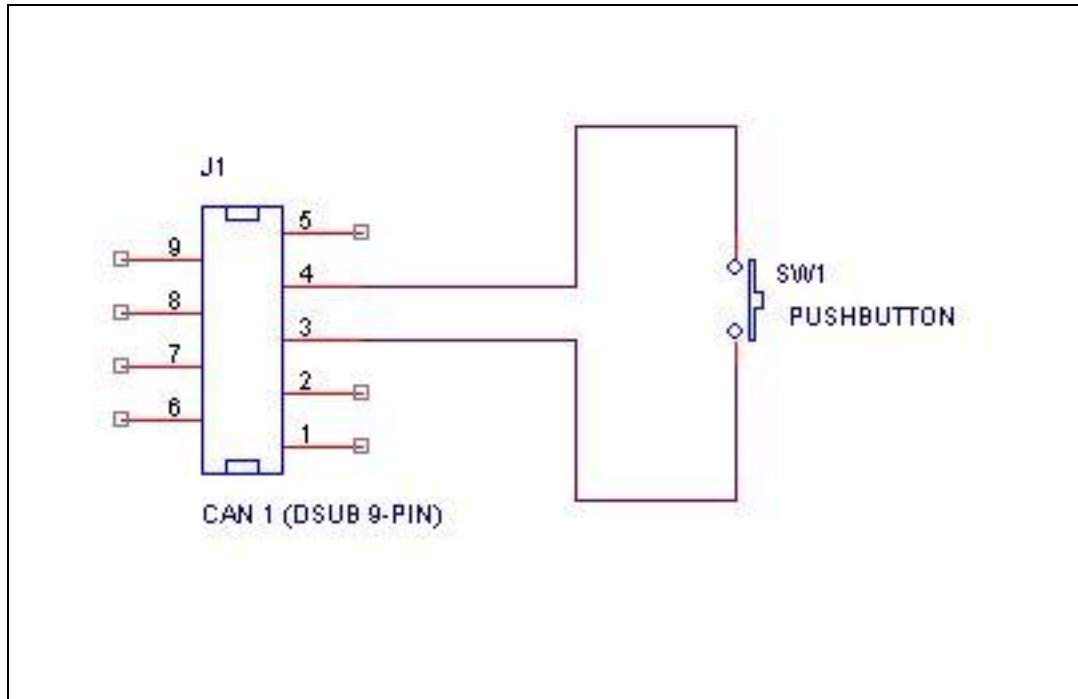

Figure 7: How to Connect an External Trigger Switch
- Connect a switch between pin 4 of the CAN channel 1 connector and ground, which can be found on pin 3 of the same connector. See Figure 7.